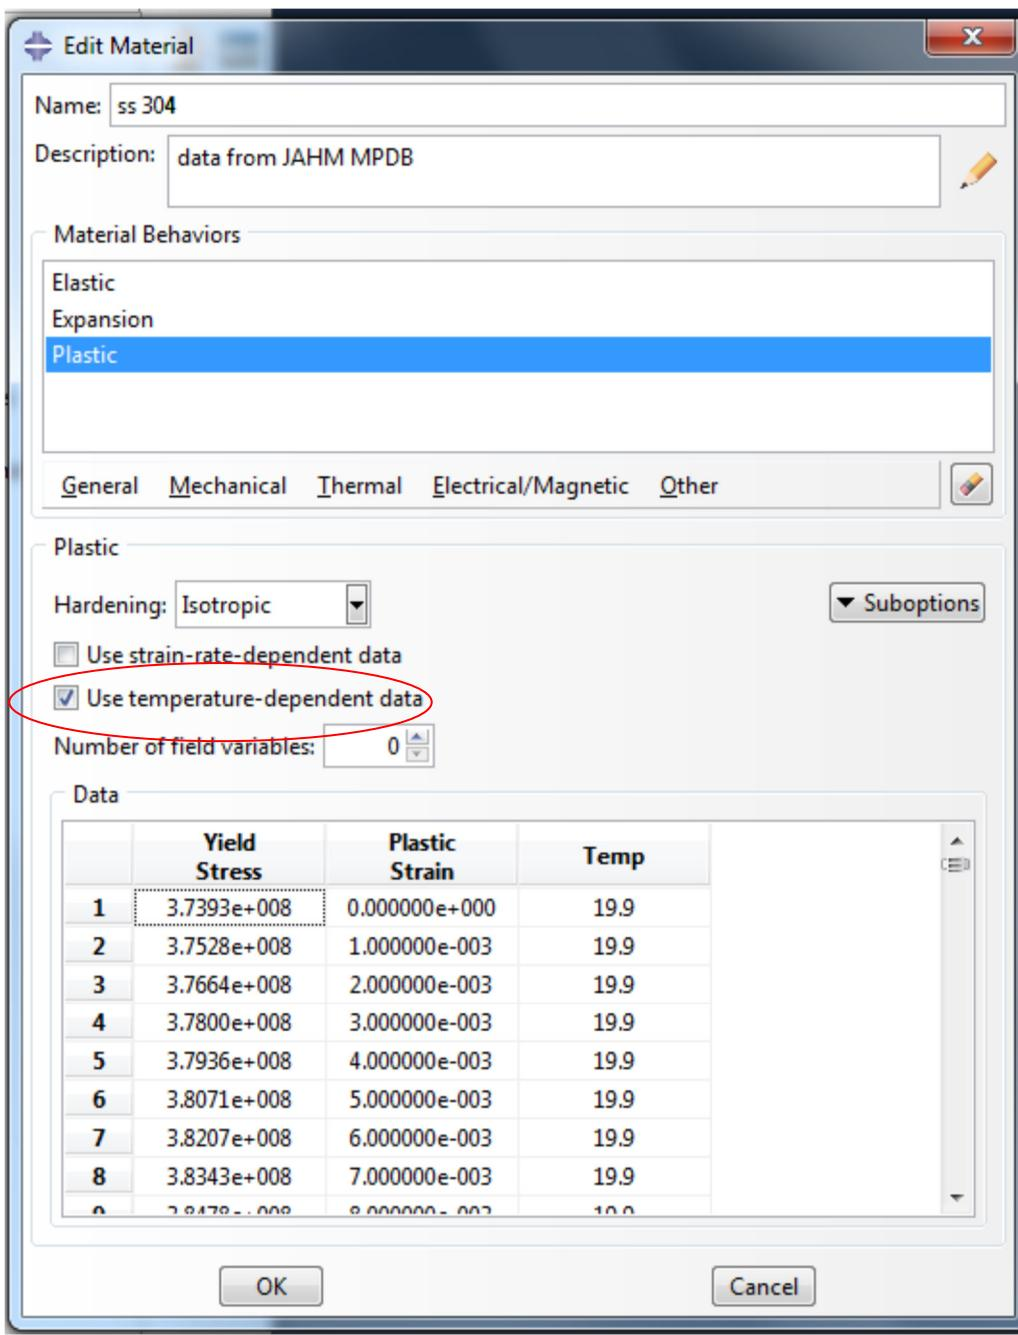

Figure 14.
- i) When you import stress-strain data be sure that the “Use temperature-dependent data” option is checked since the temperature for the curve is also written to the data by MPDB, Figure 14. This is true even if you only have one temperature or your simulation is not temperature dependent.